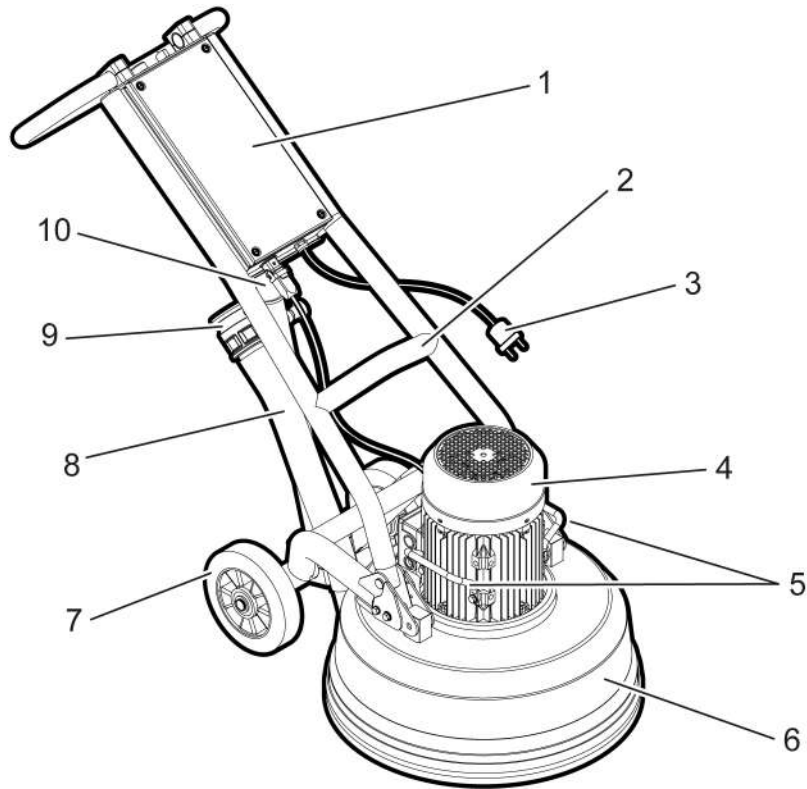
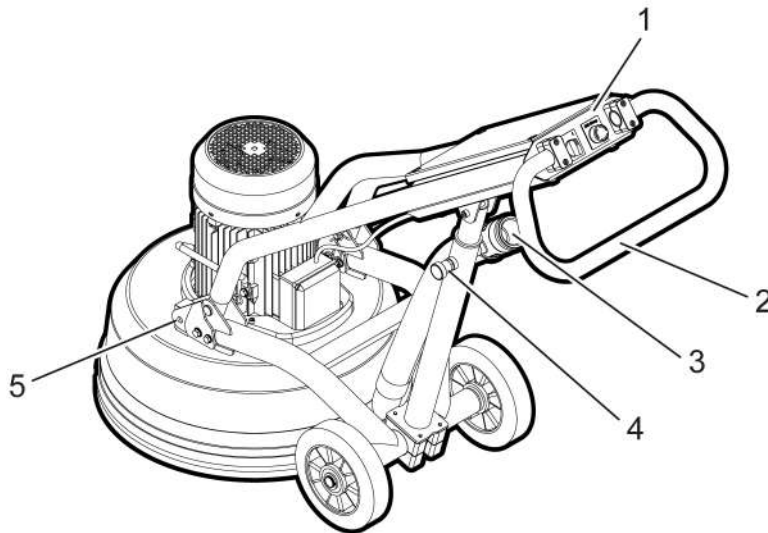

Figure 3-1. The front of the machine
Figure 3-2. The machine's rear
The machine is constructed from a number of main components, see *Figure 3-1, page 10* and *Figure 3-2, page 11*. For each machine model in the series, there are a number of different motor alternatives, see tables in *Technical data, page 30*.
The machines in the series are equipped with a lifting eye on the chassis and two lifting handles on the grinding head, see *Figure 3-1, page 10*. The lifting eye is intended for lifting the complete machine. The lifting handles are intended for lifting the grinding head, when it is separated from the chassis, and then only for short, low lifts, e.g. into the boot of a car. The lifting handles are not to be used for lifting the complete machine.
The handle can be placed in a number of different working positions by loosening the locking mechanism for adjusting the handle (see *Figure 3-2, page 11*) and moving the handle up and down to the desired working height. The angle of the handle (see *Figure 3-2, page 11*) can also be adjusted to obtain the best ergonomics. The handle can also be placed in the upright position, which must be used when the machine is tipped to enable access under the grinding head, e.g. when changing tools.
- Adjust and lock the handle in the desired position, using the locking mechanism, see *Figure 3-2, page 11*.
- Adjust the handle to the desired angle to achieve the best ergonomics, see *Figure 3-2, page 11*.
1. Undo the quick release coupling for the motor cable, see *Figure 3-1, page 10*.
2. Remove the suction hose from the grinding cover or from the vacuum connection, see *Figure 3-1, page 10* and *Figure 3-2, page 11*.
3. Remove the safety pins from the quick release, see *Figure 3-2, page 11*.